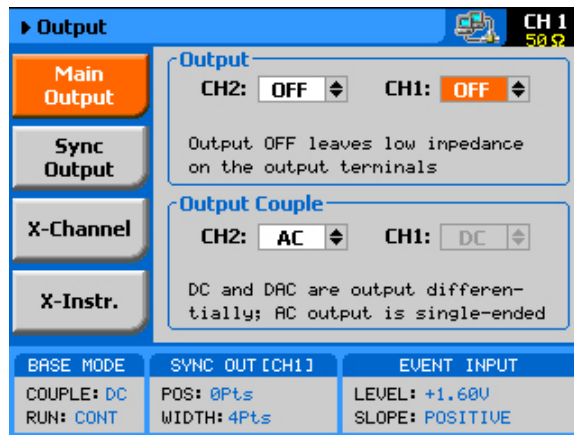

Figure 3-3, Enabling and Disabling the Outputs
For safety reasons, the main outputs default setting is OFF. The outputs can be turned on and off using either the hot keys, or the Output Menu. Please see Figure 3-3 and disable or enable the main outputs using the procedure described below. The same procedure can be used for enabling and disabling the SYNC output.
1. Press the Output button in the Control group buttons. Observe the Output display, as it appears in Figure 3-3.